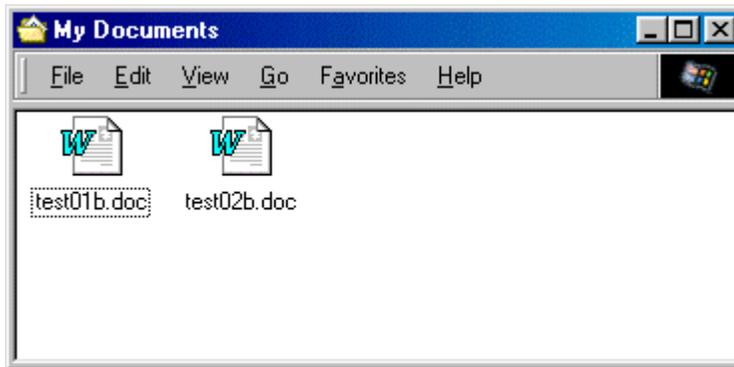

Figure 12 Retrieving an Existing Document
- From the **Desktop**, double-click on the **My Documents** folder or whatever folder you specified, to open a window similar to that in (Figure 12).